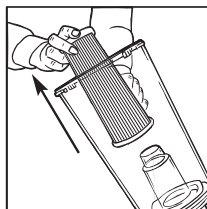

Fig.6/5
7. Align slots on lid with tabs on dust container (Fig.6/6A). Push the lid down and twist clockwise.